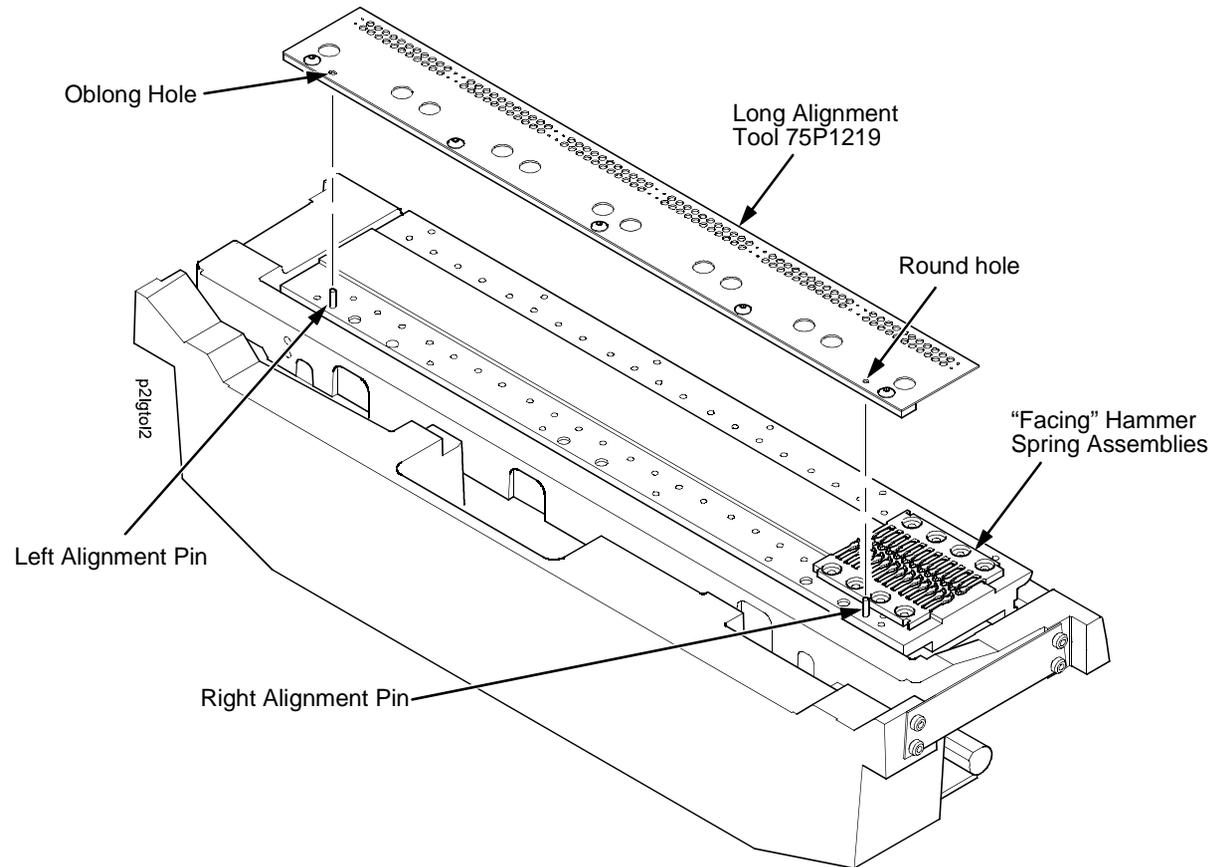

Figure 23. Position the Long Tip Alignment Tool to Install More Than One Hammer Spring Assembly on a Dual Hammer Bank
2. Place the hammer bank on a work surface with the alignment pins on the side nearest you. (The alignment pins are shown in Figure 23.)
5. Gently position long Tip Alignment Tool 75P1219 so the right side alignment pin on the hammer bank is in the round hole in the tool, then lower the tool until its oblong hole fits over the alignment pin on the left side of the hammer bank. (See Figure 23.)